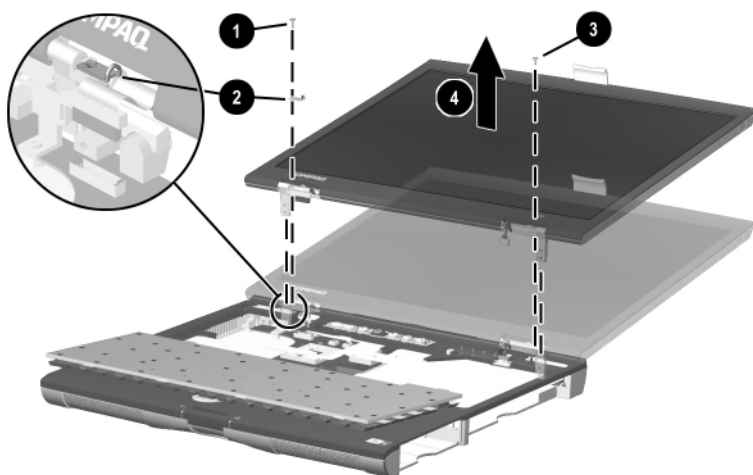

Figure 5-17. Removing the Display
13. Remove the black M2 × 12 screw ❶ that secures the left display hinge (Figure 5-17).